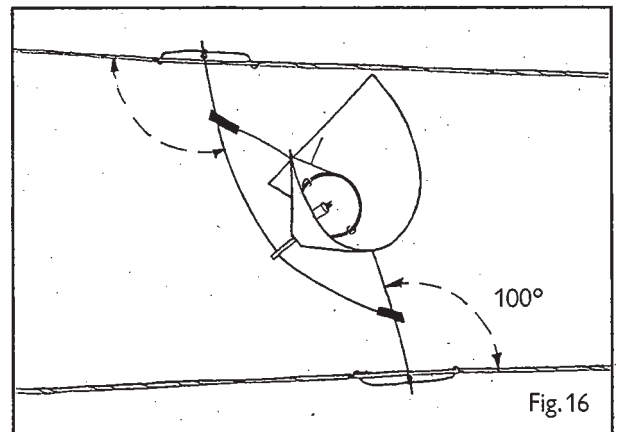

Fig. 16
1. The lighting elements (see above for assembly instructions) must be attached to the lower cable and one of the two upper cables. Attach the element to the cables in the manner shown in Fig. 16, i.e. so that the ends of the wire hangers are at a roughly  $100^\circ$  angle to the cables and the retaining springs are approximately parallel with the cables. Otherwise you will not be able to fit the retaining springs properly onto the cables.